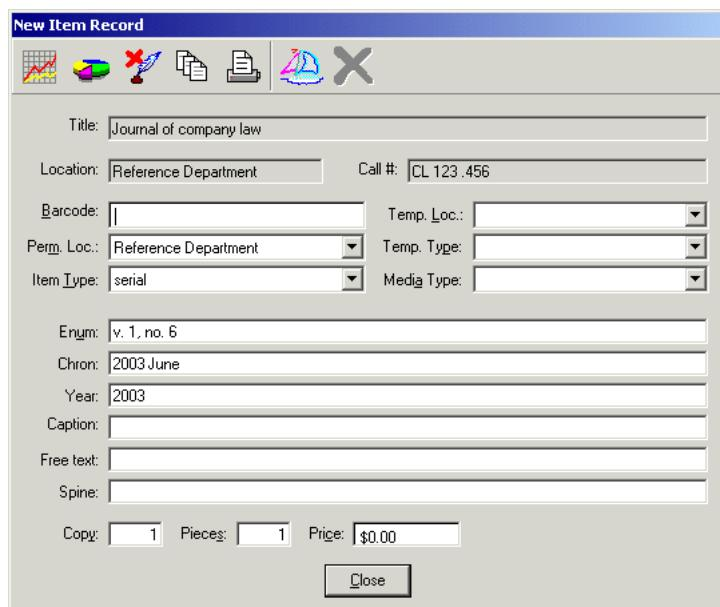
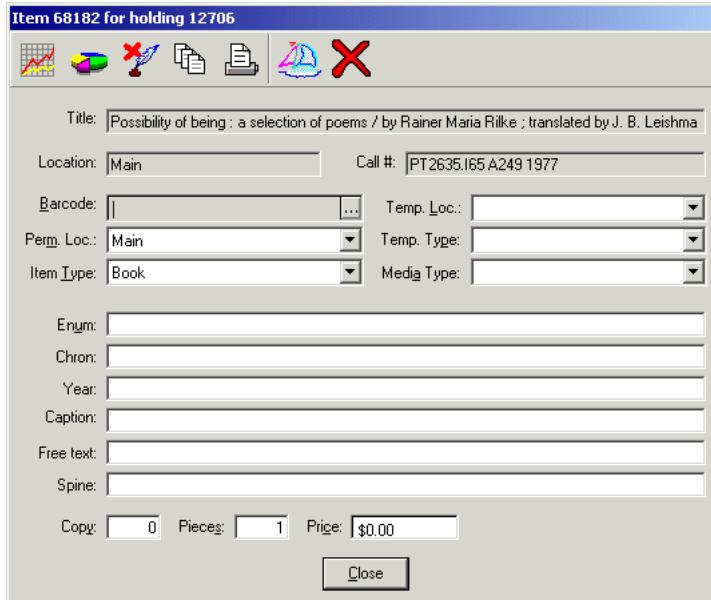

Figure 10-13. New Item Record dialog box
Figure 10-14. Item Record dialog box (item already created)
1. From the **New Item Record** dialog box (Figure 10-13) create an item record. Or from the **Item Record** dialog box (Figure 10-14) edit an item record.
In Figure 10-14 the title bar for an already create item record lists the Item ID and the associated Holding ID.